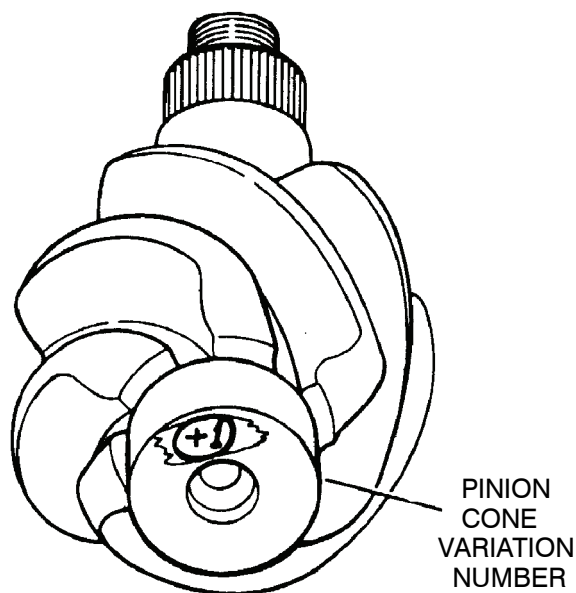

Figure 48.
- (a) Examples of Pinion Cone Variation Numbers: PC + 3, PC - 5, +2, +1. Figure 48.
- (b) Location on Gear Set: On the end of the Gear Head of the Drive Pinion or the Outer Diameter of the Ring Gear. Figure 48.